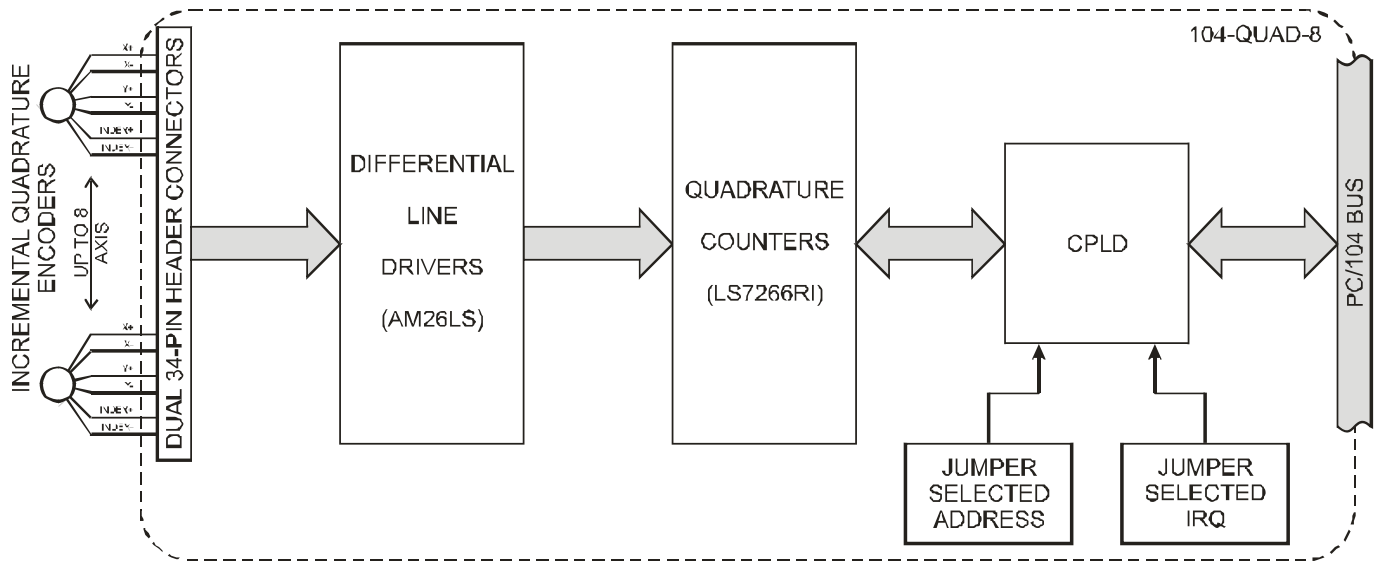

Figure 1-1: Block Diagram
- Figure 1-1: Block Diagram** 7